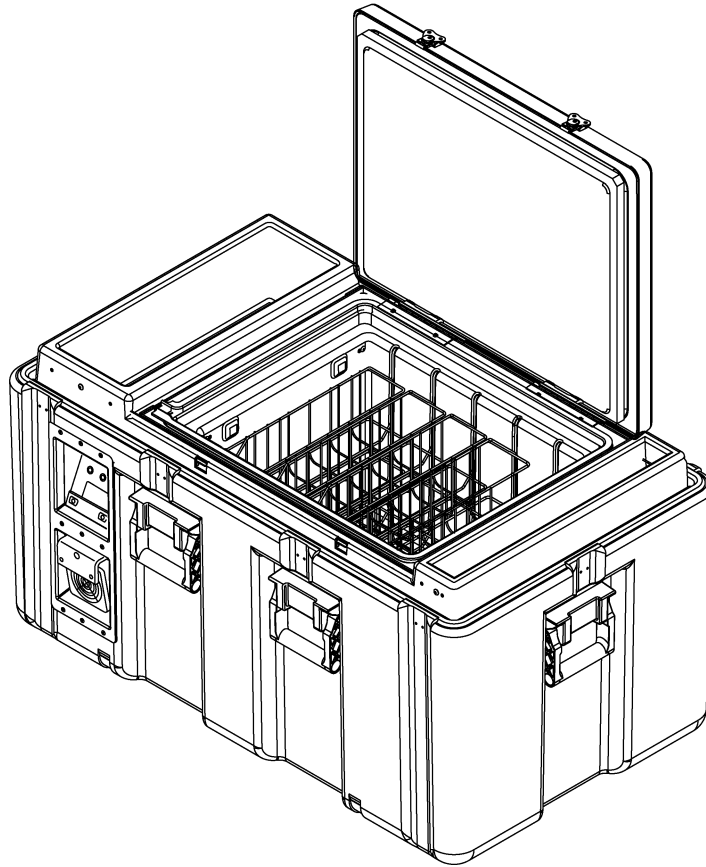

Figure 1-1. HemaCool® Compartments
- f. The assembled case is divided into three compartments (Figure 1-1):
- (1) The electronics compartment, which is on the left side when you face the display.
- (2) The payload compartment, which is in the middle and is covered by a separate internal lid.
- (3) The battery compartment, which is on the right side when you face the display.